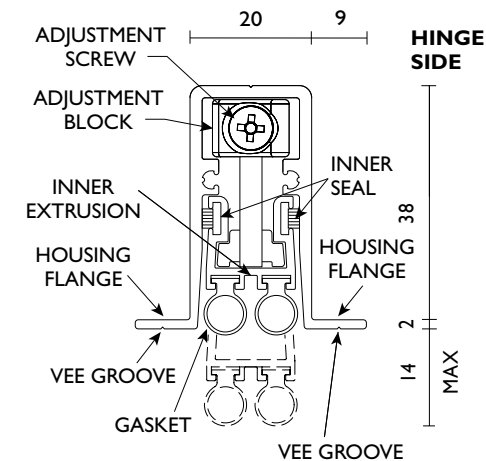

FIG.3
- STEP 3** Machine cut RPI27Si less 4mm to allow morticing of escutcheon plates. Cut back latch side only. (FIG.1 & FIG.3)